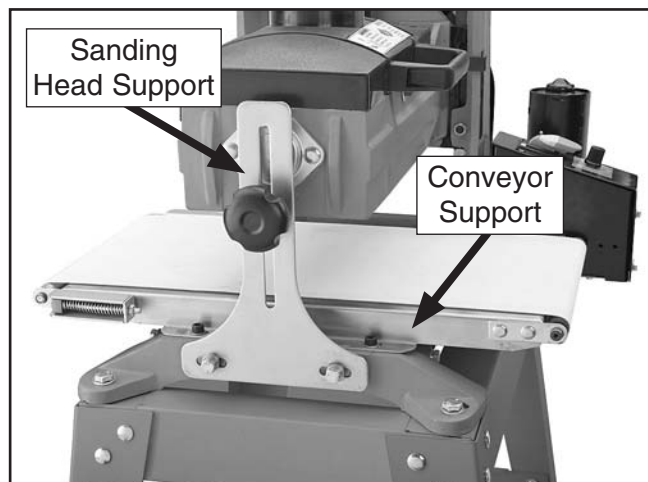

Figure 39. Location of sanding head and conveyor supports.
3. Remove the knob and flat washer from the top of the sanding head support (see **Figure 39**), remove the hex bolts, spacers, and washers from the bottom of the support, then remove the support.
4. Remove the two cap screws and flat washers from the conveyor support (see **Figure 39**).